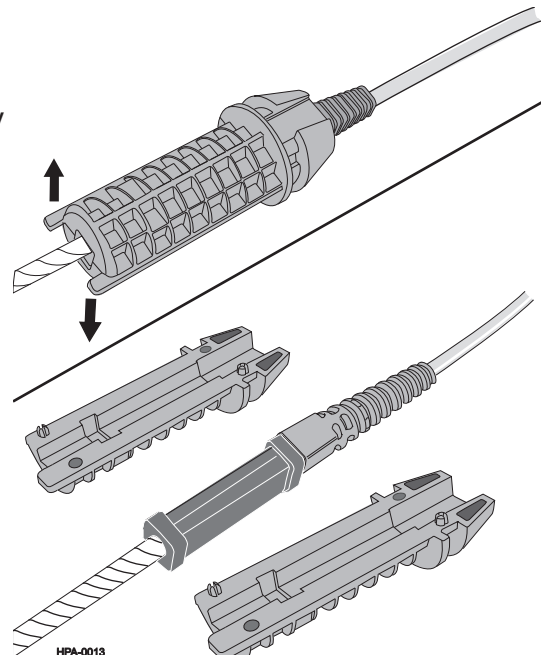

Figure 9 — Remove Coupler Halves
**Step 7:** Remove the coupler halves from the trunk furcation body and dispose of the coupler assembly (Figure 9).